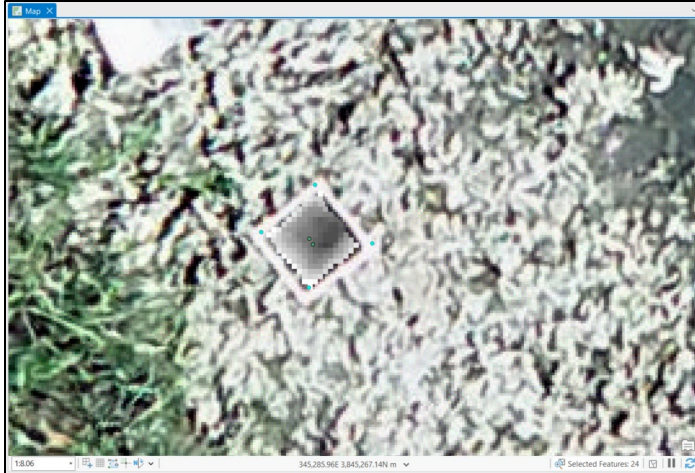

Figure 4. Screenshot of an example of the subtracted raster created in step 2 clipped to the plot-level in step 4.
- a. Analysis tab → Tools → Clip raster (Fig. 4).